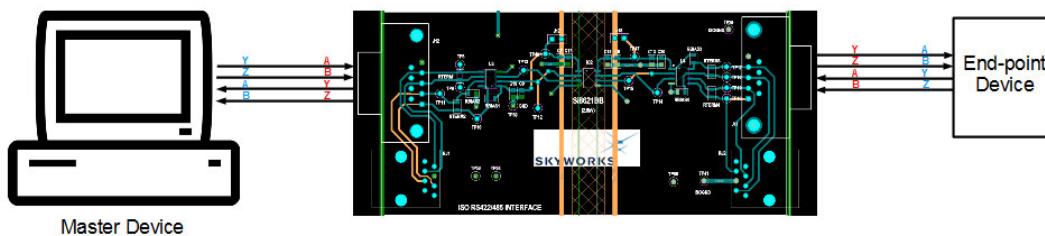

Figure 8. Simple Point-to-Point RS422/485 Connection
5. A simple 4-wire master slave point-to-point connection is shown in Figure 8 for reference.